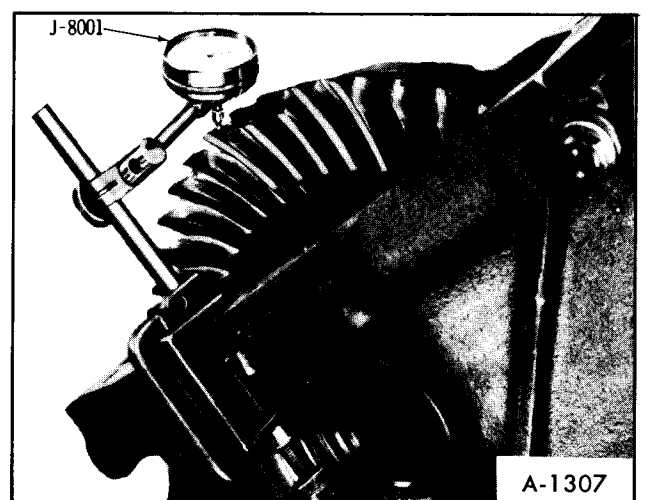

Figure 19—Checking Ring Gear to Pinion Gear Backlash
3. Rotate differential case several times to seat bearings, then mount dial indicator as shown in Figure 19. Use a small button on the indicator stem so